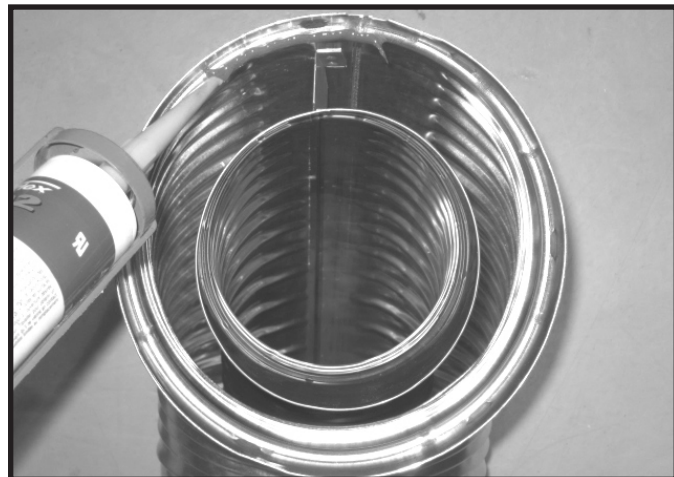

Figure 10.1 High Temperature Silicone Sealant
- Apply a bead of silicone sealant (300 °F minimum continuous exposure rating) inside the female outer pipe joint prior to joining sections. See Figure 10.1.